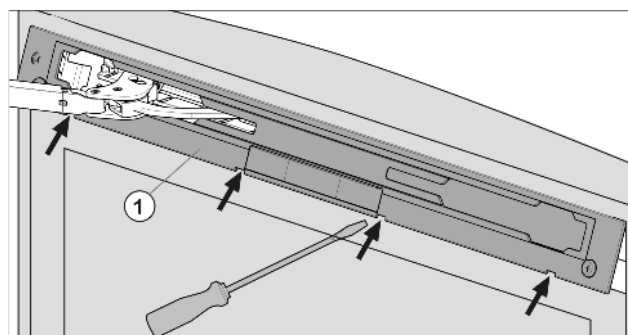

Fig. 52
- Release panel *Fig. 52 (1)* using slotted screwdriver and remove.